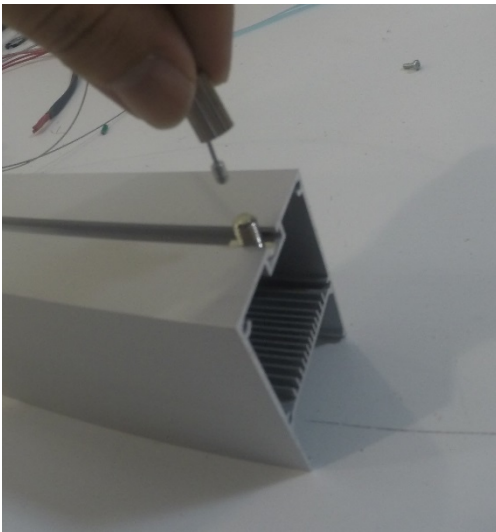

FIGURE 2
STEP 2: Slide the screw into the channel on the back of the fixture. (FIGURE 2)